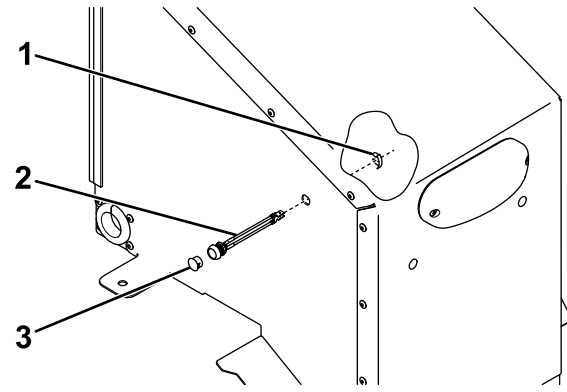

**Figure 4**
10. Secure the grommet plate to the inside of the rear cover using 4 bolts (#10 x 3/4 inch) and nylon nuts (Figure 4).
11. Insert the rubber grommet into the grommet plate (Figure 4).